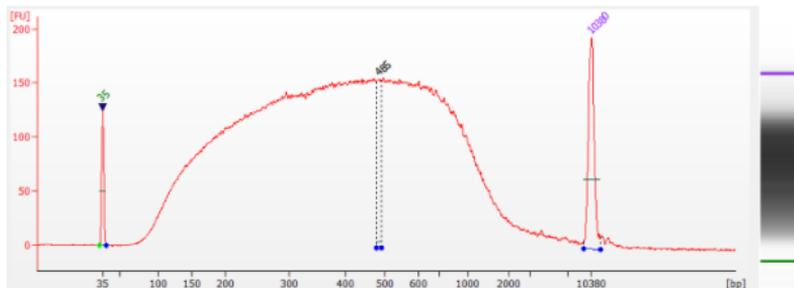

Figure 1 Agilent 2100 BioAnalyzer Fragment Size Distribution Results of the fragmentation Product
**Note:** For the first fragmentation test, it is recommended to take 3-5 ng samples from the 3.1.6 sample for 1.8x DNA Clean Beads purification (Elute the sample with 5  $\mu$  L TE Buffer, refer to Step 3.2.2) and run Agilent 2100 BioAnalyzer (High Sensitivity DNA Kits). The normal PE150 fragment size should be between 100 bp-1000 bp, with a peak size of 300bp-500bp (see Figure 1). Titrate the 30°C incubation time if the peak size is too large or too small.